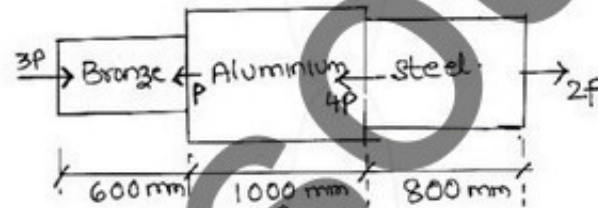

Fig.Q1(c)
- Determine the value of P that will not exceed a maximum deformation of 2mm or a stress of 120 MPa in steel, 80 MPa in Aluminium and 115 MPa in bronze (Fig.Q1(c)). Given the following data: